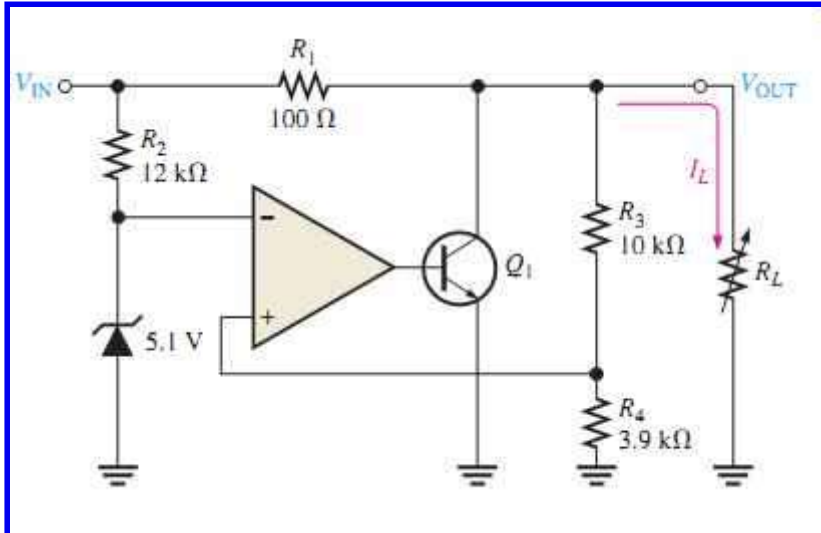

FIG. 48
Basic Linear Shunt Regulators 12. In the shunt regulator of FIG. 48, when the load current increases, does Q1 conduct more or less? Why?
13. Assume I_L remains constant and changes by 1 V in FIG. 48. What is the change in the collector current of Q1.
14. With a constant input voltage of 17 V, the load resistance in FIG. 48 is varied from 1k OHM to 1.2 k OHM. Neglecting any change in output voltage, how much does the shunt current through Q1 change?
15. If the maximum allowable input voltage in FIG. 48 is 25 V, what is the maximum possible output current when the output is short-circuited? What power rating should R1 have?